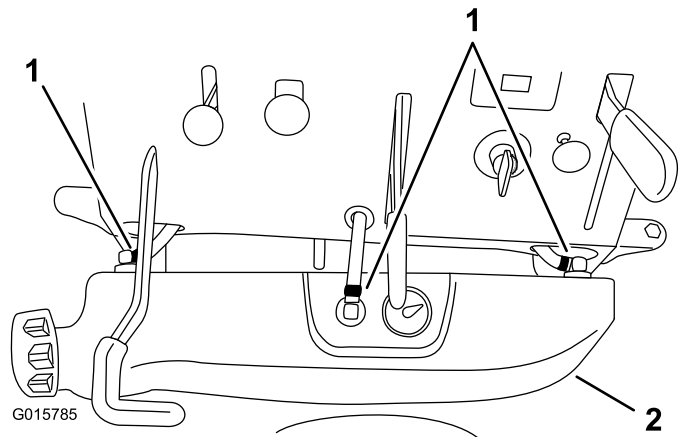

Figure 4
9. Lift the tank up and forward as far as possible (Figure 4).
10. Disconnect the 3 vent hoses from the fuel tank by loosening the hose clamps (Figure 4).